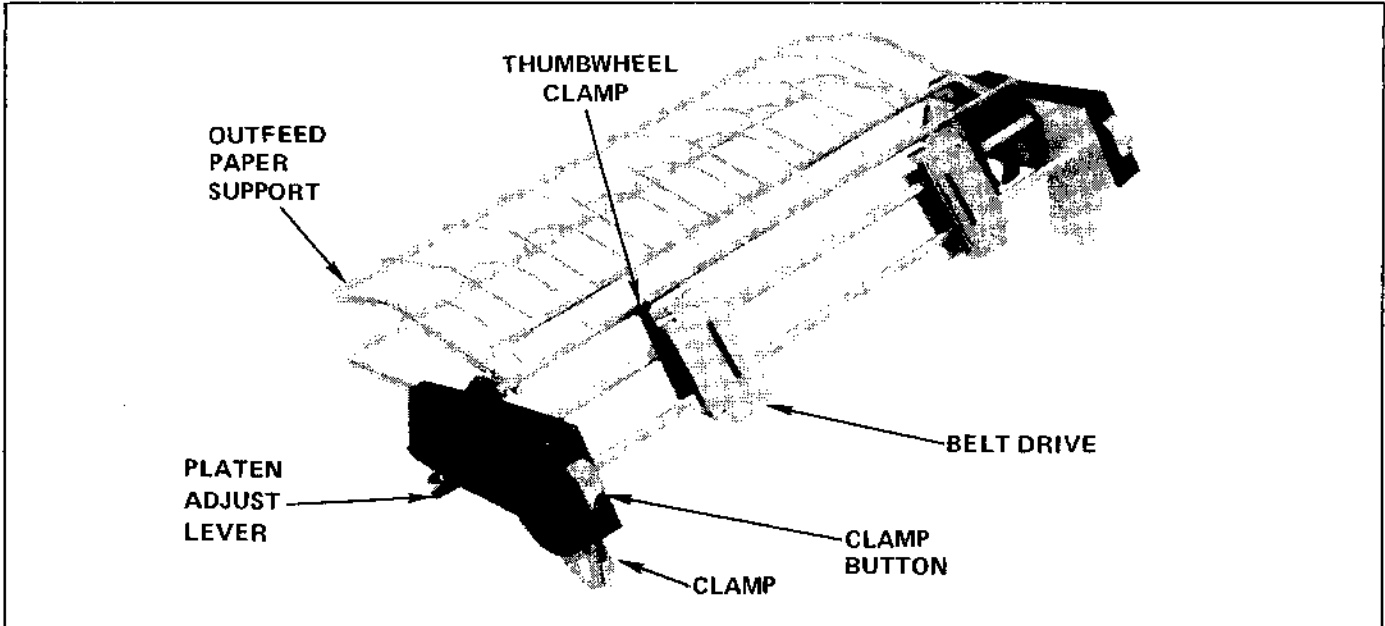

Figure 2-12. Forms Tractor
- (1) Remove any paper from the forms tractor.
- (2) Press the two clamp buttons (Figure 2-12) in as far as possible and lift the assembly straight up.
- (1) Pull the paper release lever and paper bail forward toward the front of the HyTerm.
- (2) Carefully lower the forms tractor down over the platen until its clamps (Figure 2-12) are resting on the platen shaft.